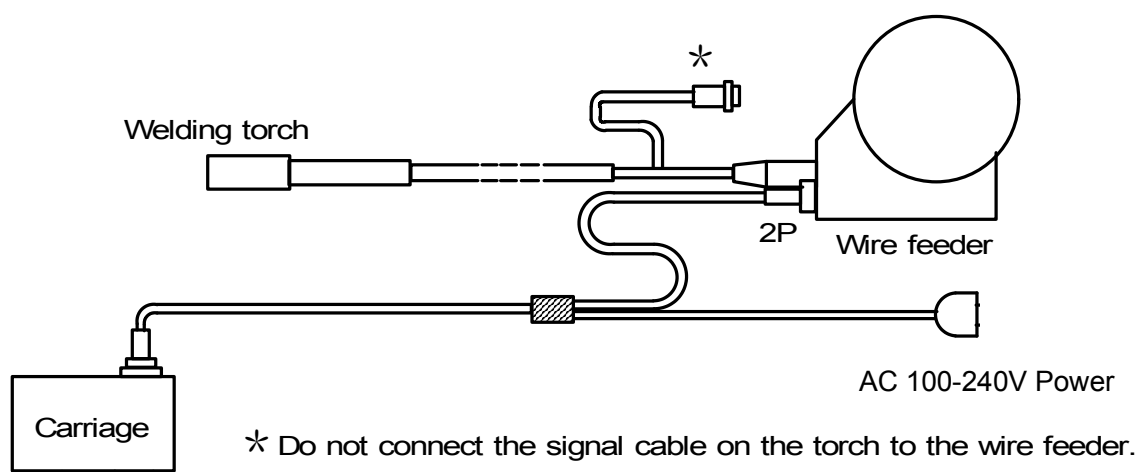

Fig 3 System connection diagram
Conduct welding in the following manner, while referring to the Fig 3“System connection diagram” and the operation procedure in item 8.1.